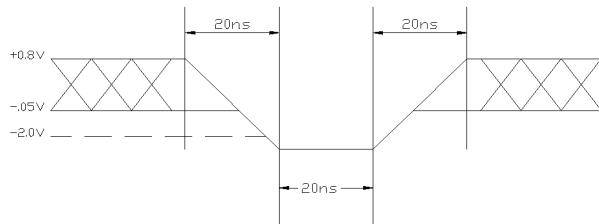
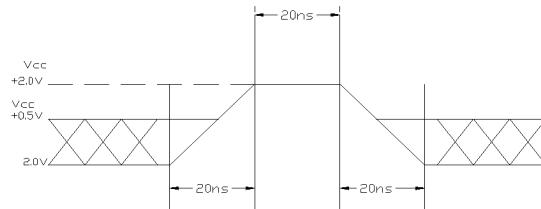

Figure 1.
Figure 2.
1. Minimum DC voltage on input or I/O pins is -0.5V. During Vaoltage transitions, inputs may overshoot Vss to -2.0V for periods of up to 20 ns. See Figure 1. Maximum DC voltage on input or I/O pins is Vcc +0.5V. During Voltage transitions, inputs may overshoot Vcc to +2.0V for periods of up to 20 ns. See Figure 2.
2. Minimum DC input voltage on A9 pin is -0.5V. During voltage transitions, A9 pins may overshoot Vss to -2.0V for periods of up to 20 ns. See Figure 1. Maximum DC inpuv voltage on A9 is +12.5V inputs which may overshoot to